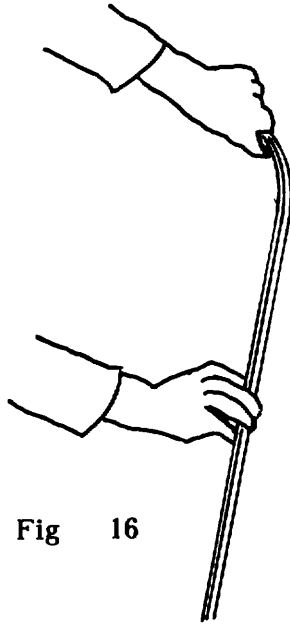
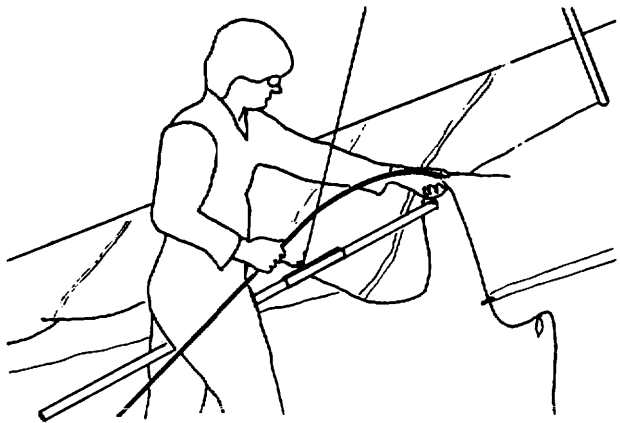

Fig 16
Fig 17
10) Remove the battens from the bag, lay them on the ground, and check them for symmetry, side to side. (Fig 16) Correct any that are assymmetric.(See the tuning and maintenance sections of this manual for more information on batten shaping.) Separate the right side battens (those with black tips) from the left side battens (white). Insert the top surface battens into the sail. Order of battens is longest to shortest from the root out to the tip. Wills Wing numbers battens from the tip inboard, so that the shortest batten (which is the straight plug on batten), is the number one batten, and the longest batten is the #8 batten. When inserting the number 8 battens, you should lift the rear end of the keel and hold it up so that the batten slides in more easily without the rear end scraping the ground. (Fig 17)